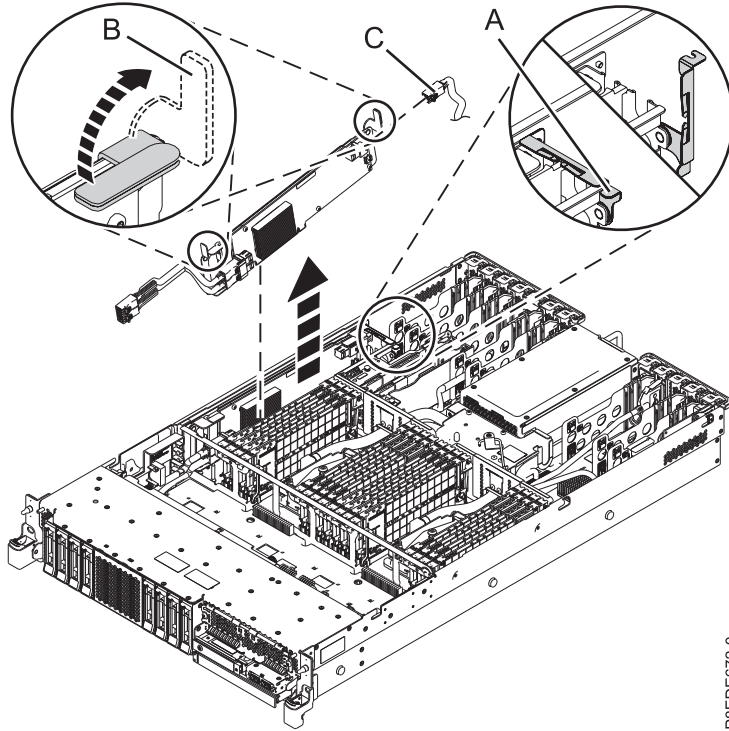

Figure 157. Removing the SAS RAID adapter
- a. Lift the cable retention bracket (**A**) in the direction shown. See Figure 157 on page 165.
- c. Using the blue handles on the SAS RAID adapter, lift the adapter up far enough to disconnect the rear SAS cable (**C**) from the SAS RAID adapter, as shown in Figure 157 on page 165.